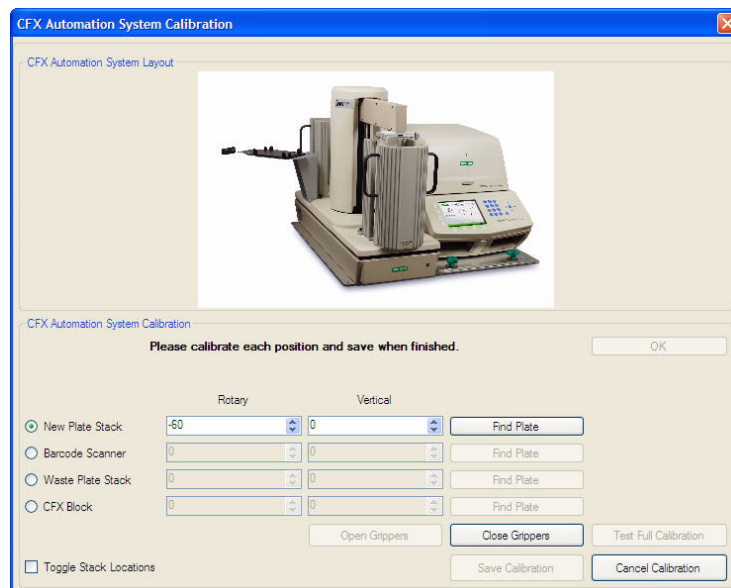

Figure 20. Selecting the new plate stack position.
2. In the CFX Automation System Calibration window, select **New Plate Stack** to display the **Find Plate** button (Figure 20).